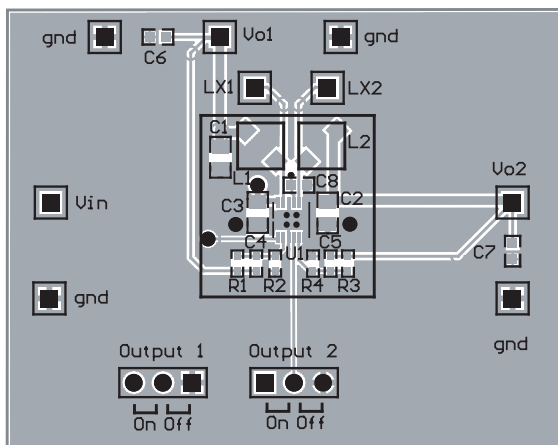

Figure 4: AAT2510 Evaluation Board Top Side.
The proper placement of the input capacitor (C3 and C8) can be seen in the evaluation board layout in Figure 4. Since decoupling must be as close to the input pins as possible, it is necessary to use two decoupling capacitors. C3 provides the bulk capacitance required for both converters, while C8 is a high frequency bypass capacitor for the second channel (see C3 and C8 placement in Figure 4).
1. Due to the pin placement of VIN for both converters, proper decoupling is not possible with just one input capacitor. The large input capacitor C3 should connect as closely as possible to Vp and GND, as shown in Figure 4. The additional input bypass capacitor C8 is necessary for proper high frequency decoupling of the second converter.